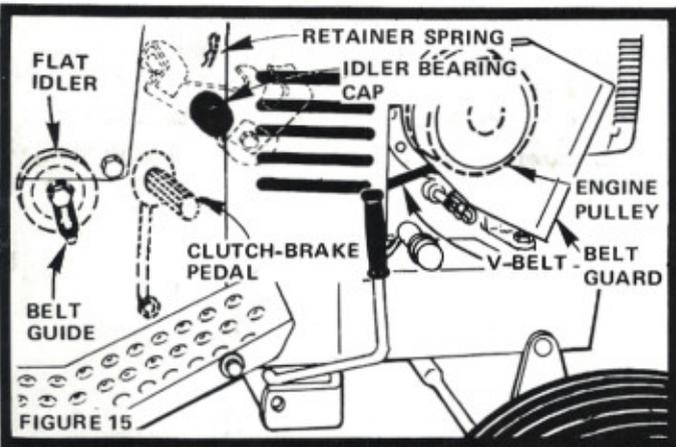

FIGURE 15
A new V-Belt may stretch after the first few hours of operation. If Clutch-Brake Pedal, in drive position (Fig. 15), is considerably to the front or rear of the vertical position, the V-Belt is out of adjustment and must be re-tensioned.
- a. Idler Bearing (Fig. 15)
- Remove Spark Plugs and Belt Guard and turn Engine Pulley (Fig. 15) clockwise by hand until 21^oBTC mark on gear cover aligns with mark on flywheel. Turn another 1/4 turn to ensure points are fully open.